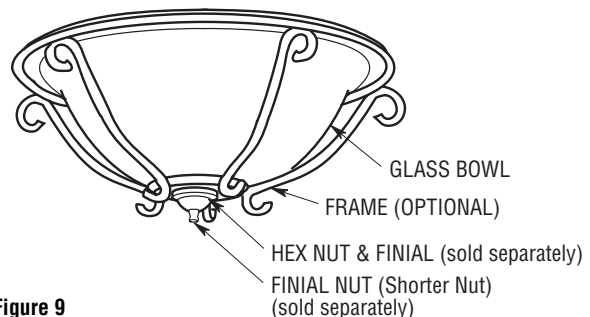

Figure 9
11. If installing an optional frame: Gently slide the frame over the glass bowl then secure the frame to the light fixture by placing the hex nut, finial and shorter finial nut (both sold separately) onto the threaded light fixture. Tighten the finial nut onto the threaded light fixture (Figure 9).